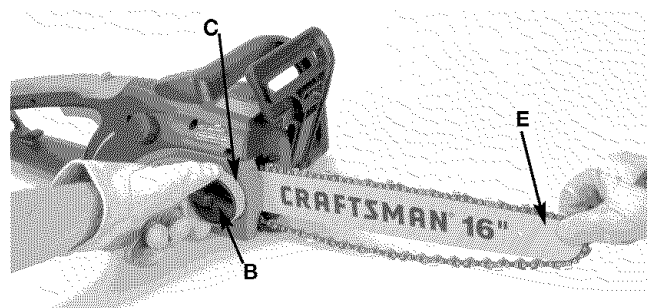

Fig. 21
3. For final adjustment, hold the tip of the bar (E) up and tighten chain tension ring (C). Then tighten the knob (B) (Fig.21).